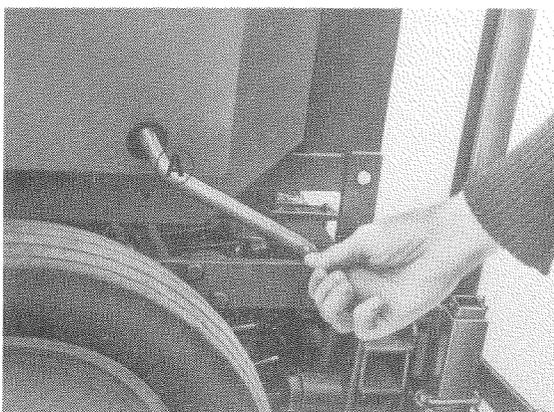

Fig. 18
- Put the test sowing handle A (Fig. 18) — which is located on the side of the gearbox under the guard — on the drive shaft at the right side.